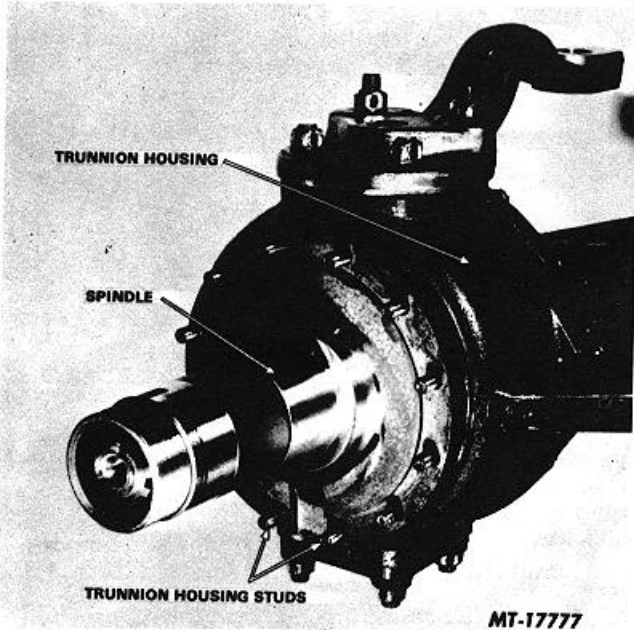

Fig. 1 Removing Spindle
1. Slide spindle off Trunnion Housing Studs, (retaining nuts removed when disassembling brake group). See Fig. 1